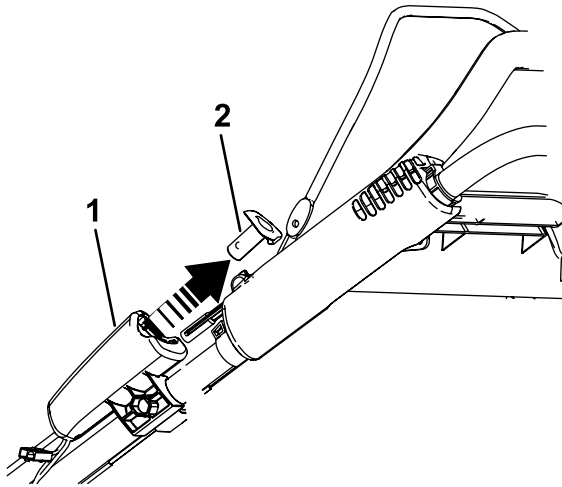

Figure 35
1. Remove the electric-start button as shown in Figure 35 (electric-start model only).